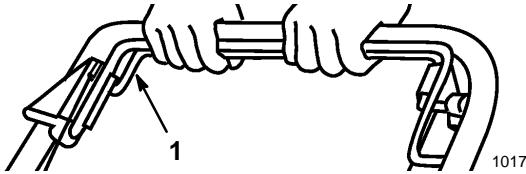

Figure 8
1. To operate the self-propel drive, squeeze the self-propel bail against the handle and hold it (Fig. 8).